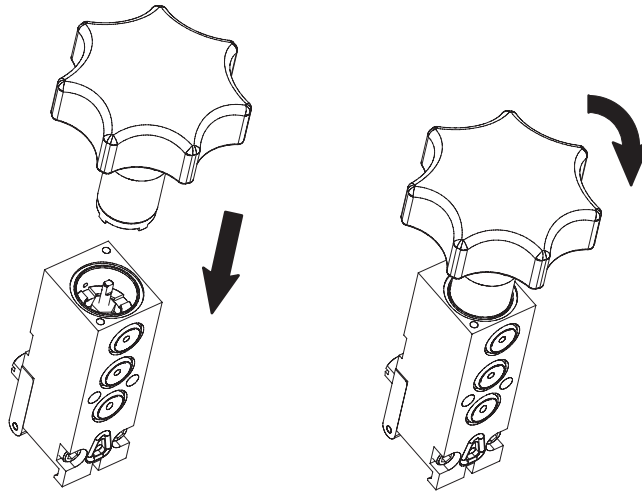

Figure 19 Using the cartridge tool to tighten the cartridge assembly
5. See Figure 19. Using a moderate, constant, downward pressure, turn the cartridge tool clockwise until it is hand-tight. To prevent thread damage, do not force the threads to engage.